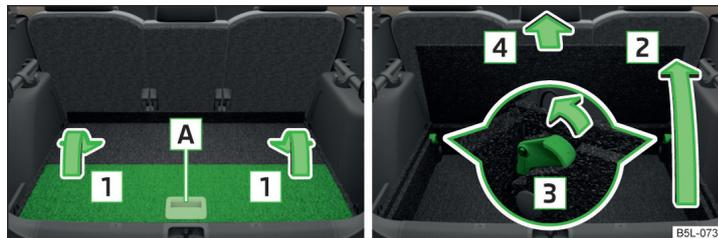

Fig. 105 Fold up / removal variable loading floor
- › Fold the variable loading floor together using the handle **A** and fold in the direction of **1** » Fig. 105.